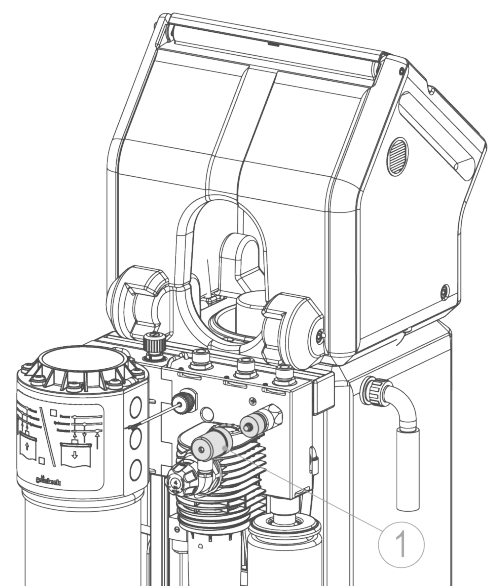

Fig. E-4: Pressure switch pressure booster
- Plug the pressure switch plug (refer to fig. E-4, no. 1) into the pressure switch – the pressure booster pump starts pumping. In order to vent the connecting line of the reverse osmosis (piping by client on site) slightly loosen the union nut, if necessary, until the air has escaped.